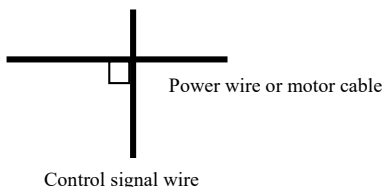

Fig.4-2 System wiring demand
(1) Inverter terminal motor connection wire (U, V, W terminal output wire) and inverter terminal power connection wire (R, S, T terminal input wire) should keep distance enough as possible as can.
(2) U, V, W terminal 3 motor wires should be placed in metal tube or metal wiring tank as possible as.
(3) Generally control signal wire should use shield cable, when shield layer connect to inverter (⊕) terminal, it should be the single end earth grounding which closed to inverter side.
(4) Inverter (⊕) terminal earth grounding cable must directly connect to floor, it cannot connect to earth grounding through other device, and the location of earth grounding should close to inverter as possible as.
(5) Strong current cable (R, S, T, U, V, W) cannot parallel wiring closely with control signal wire, and bundled together is prohibited. It should keep distance from over 20~60 cm (Relative to strong current size). When it's necessary to intersect, it should be orthogonal crossing, show as Fig.4-2.